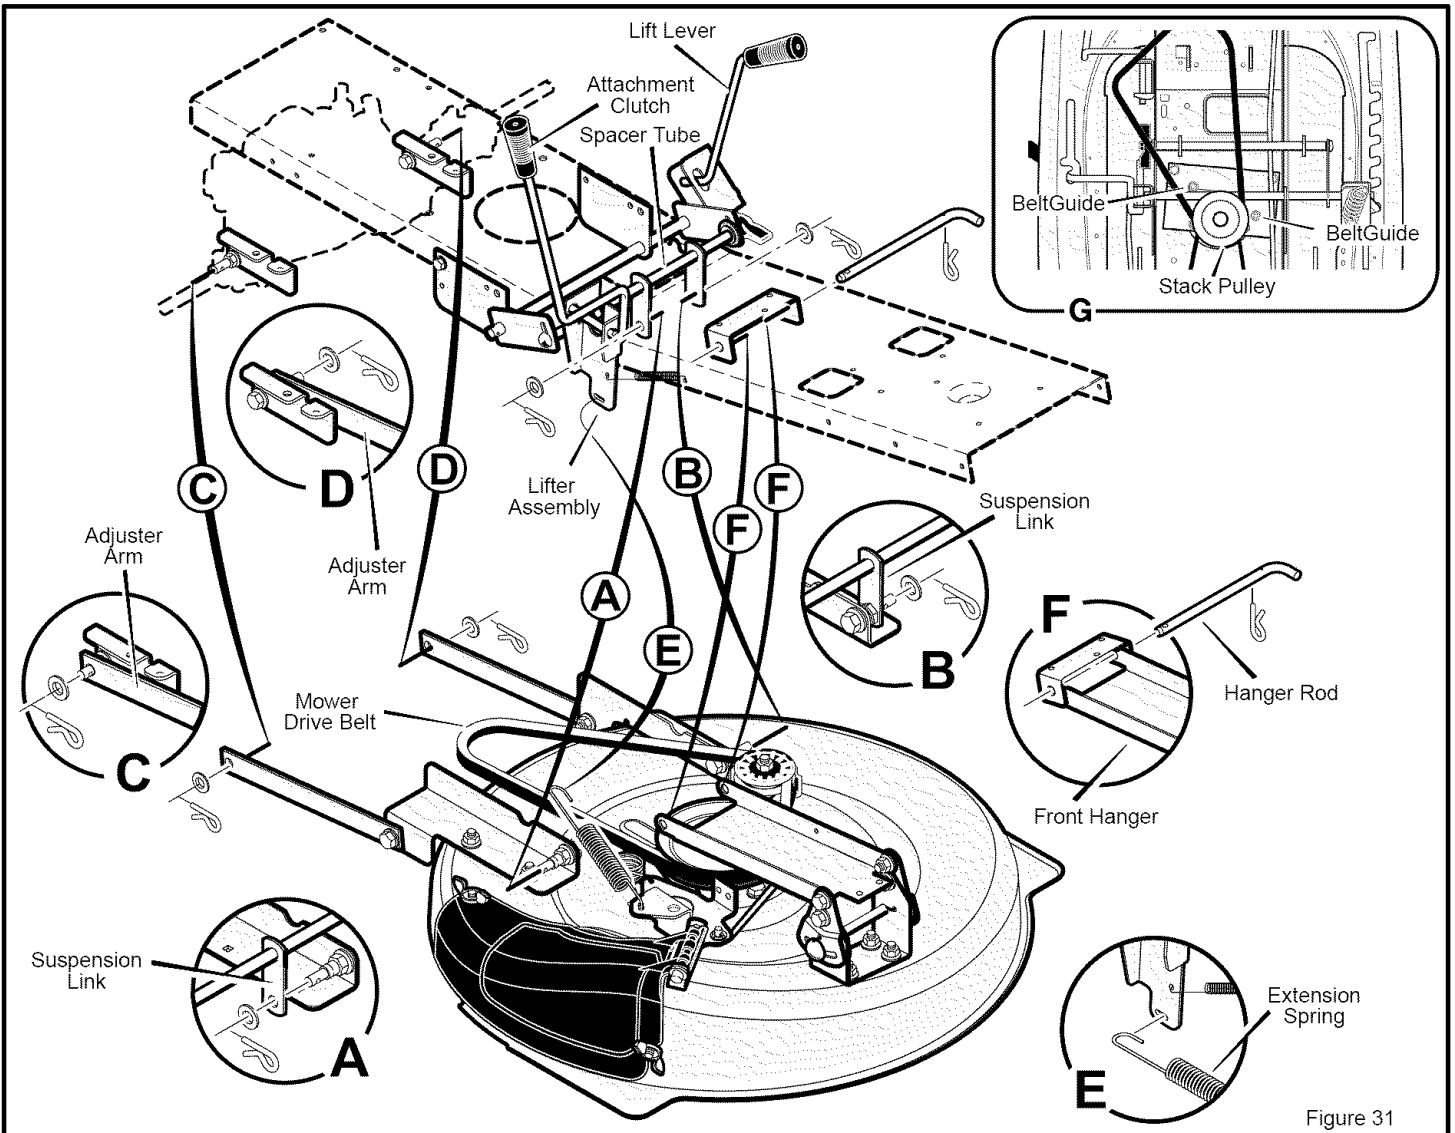

Figure 31
3. Remove the hair pins and the washers from the **rear suspension arms** (Figure 31). See illustrations "C" and "D".